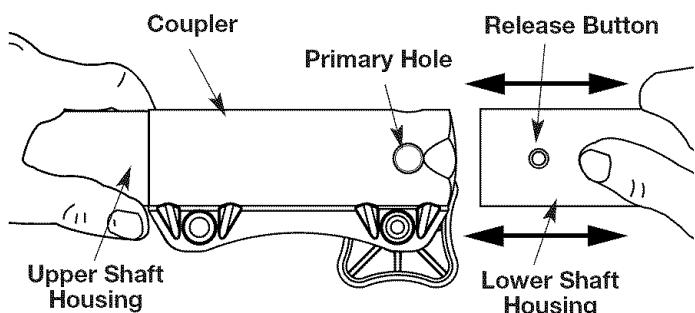

Fig. 7
3. While firmly holding the upper shaft housing, pull the cutting attachment or optional attachment straight out of the coupler (Fig. 7).
2. While firmly holding the attachment, push it straight into the coupler (Fig. 7).
**NOTE:** Aligning the release button with the guide recess will help installation (Fig. 7).